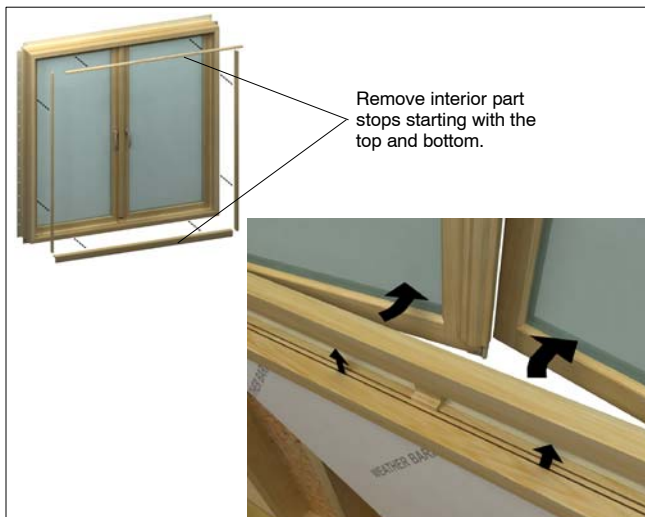

Figure 1: Removing interior part stops
2. Open the sash and remove the interior part stops and set aside in a safe location for re-installation. See figure 1.